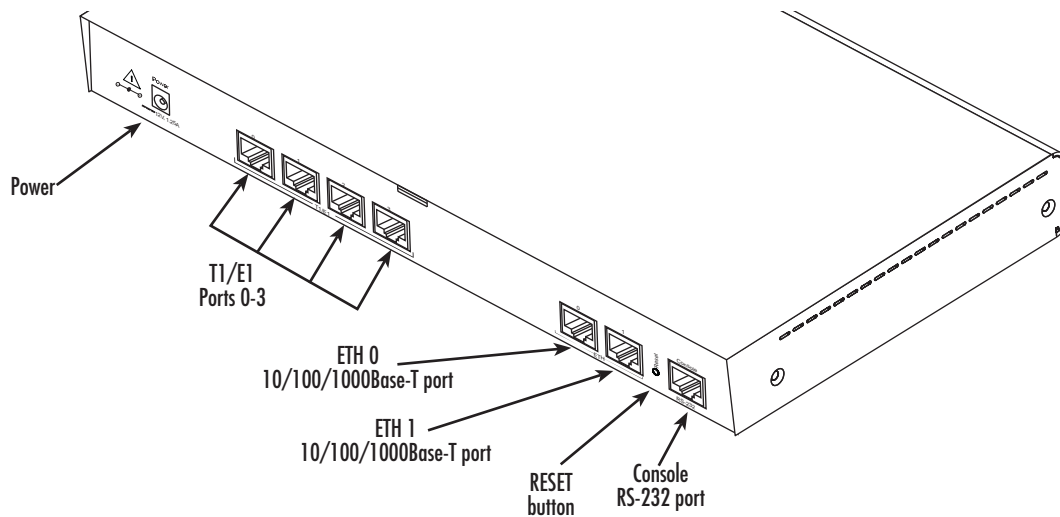

Figure 5. Power connector location on rear panel
1. Insert the barrel type connector end of the AC power cord into the external power supply connector (see figure 5).
5. Verify that the green *Power* LED is lit (see figure 5).